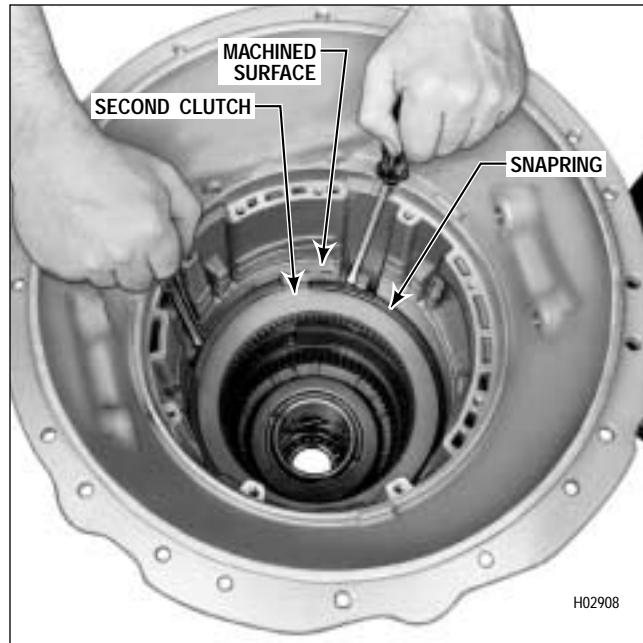

Figure 5-21. Removing Second Clutch Snapring
(1) Remove the snapring that retains the second clutch (Figure 5-21).
(2) Remove three external-tanged and three internal-splined second clutch plates (Figure 5-21).